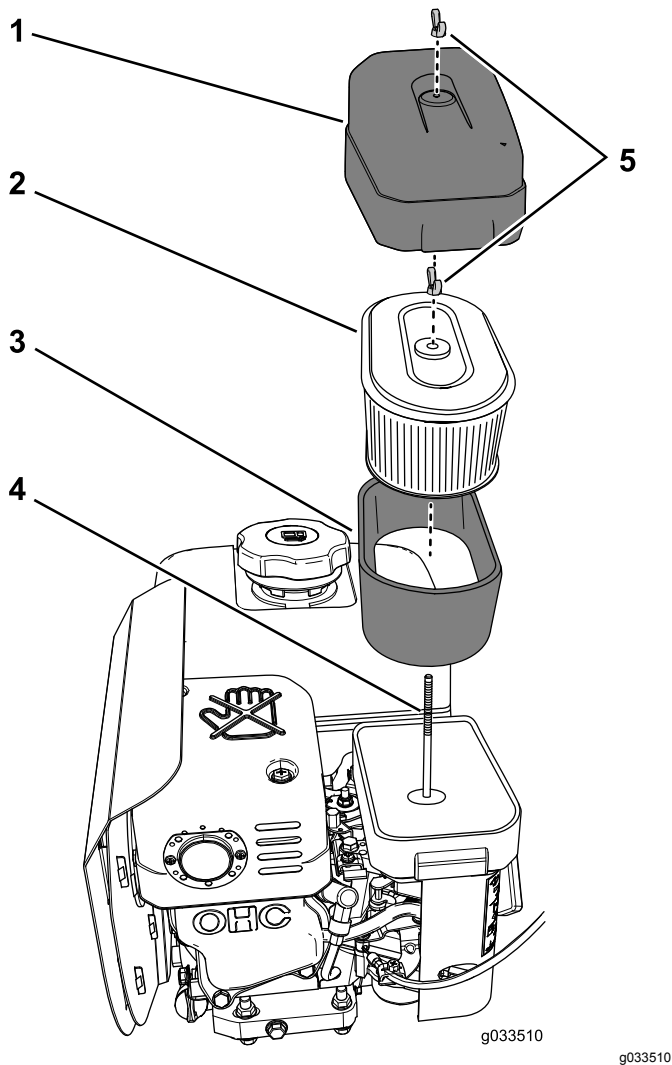

Figure 12
2. Clean around the air cleaner to prevent dirt from getting into the engine and causing damage (Figure 12).
4. Rotate the wing nut that secures the paper and foam-filter elements counterclockwise and remove the filter elements from the hold-down rod (Figure 12).
5. Carefully pull the foam element off the paper element (Figure 12).
1. Inspect the element for tears, an oily film, or damaged (Figure 12).
1. Carefully slide the foam-filter element onto the paper-filter element (Figure 12).
2. Align the hole in the top plate of the paper-filter element with the hold-down rod of the carburetor (Figure 12).
3. Secure the filter elements to the carburetor with the wing nut (Figure 12) that you removed in step 4 of Removing the Foam and Paper Elements \(page 11\).
4. Align the hole in the air-cleaner cover with the hold-down rod (Figure 12) and secure the cover to the rod with the wing nut that you removed in step 3 of Removing the Foam and Paper Elements \(page 11\).
3. Rotate the wing nut that secures the air-cleaner cover counterclockwise and remove the air-cleaner cover (Figure 12).